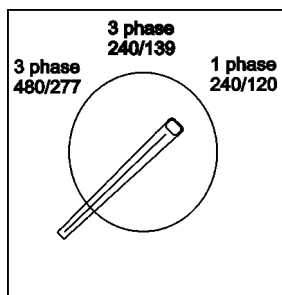

Figure 56. Terminal Switch
2. Set the terminal switch to desired phase for load being used (Figure 56).